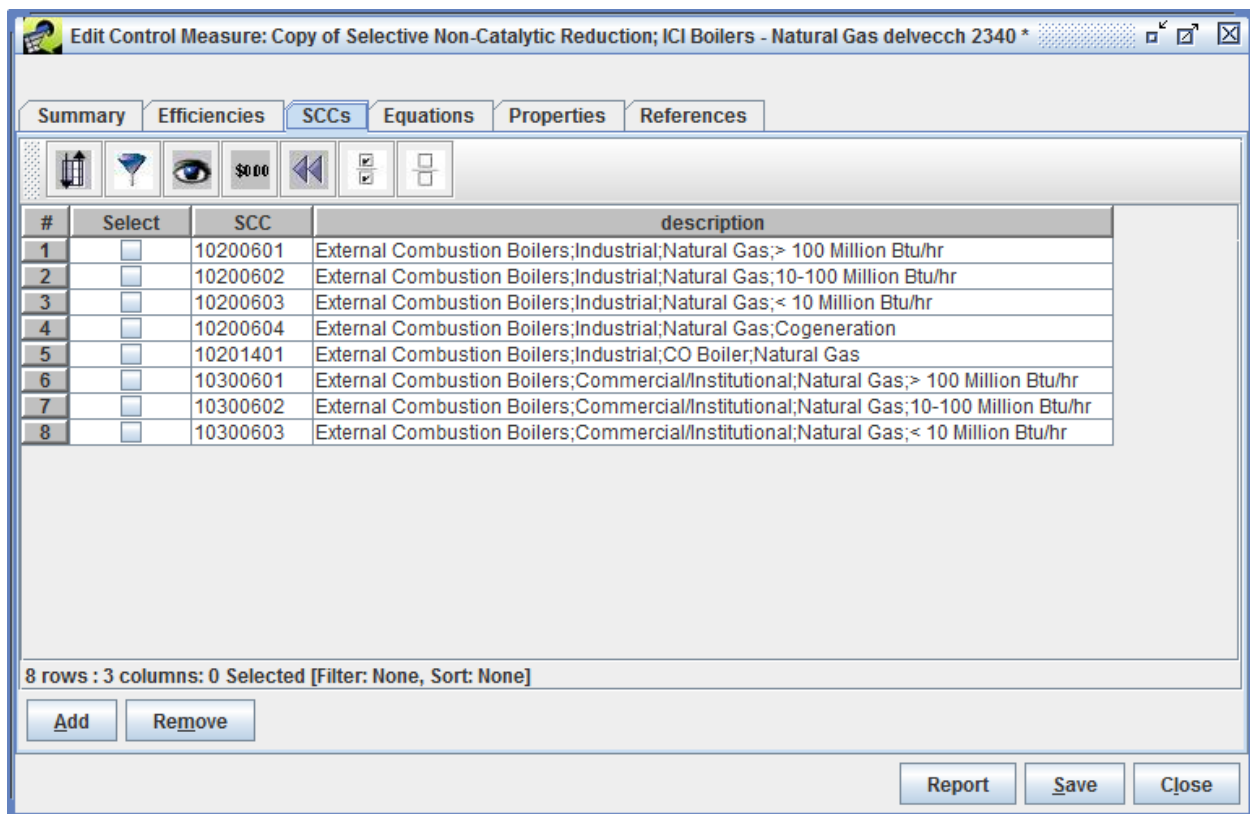
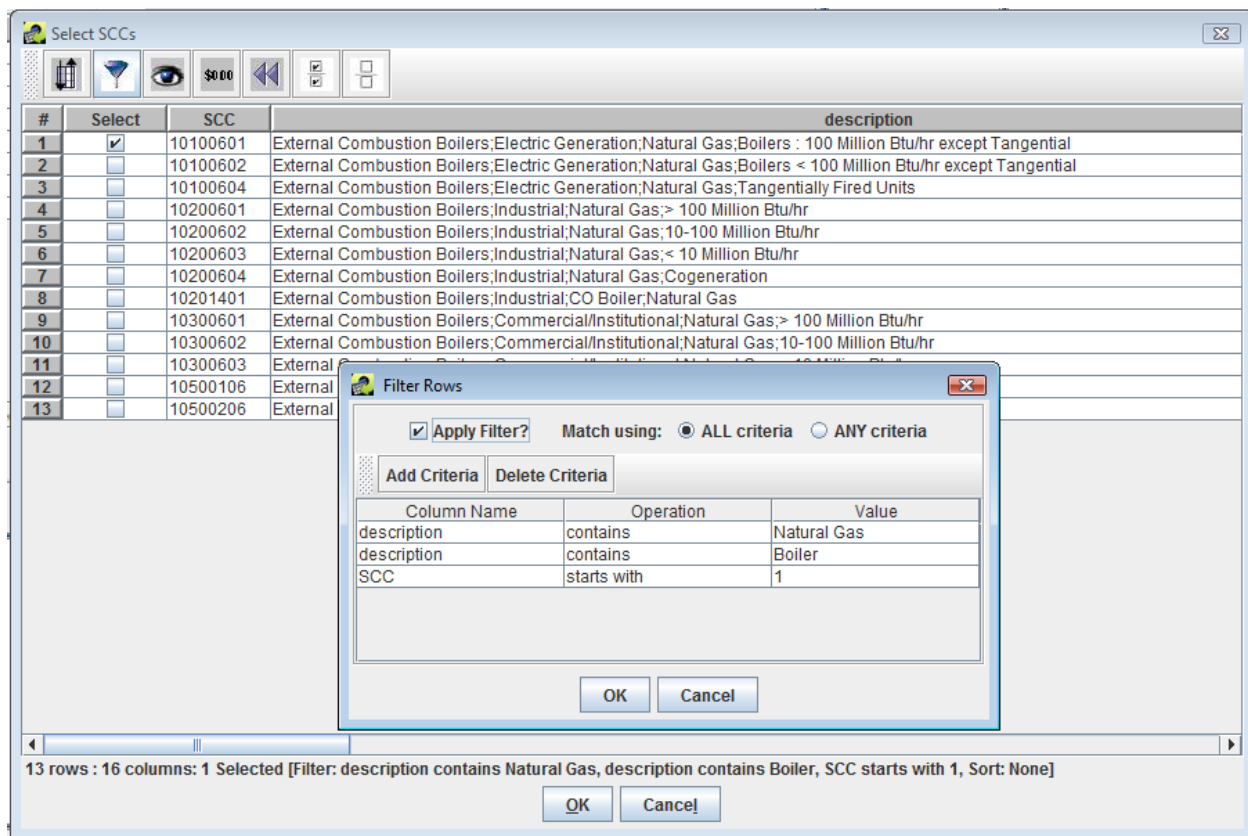

Figure 3.21: SCCs Tab of Edit Control Measure Window
Figure 3.22: Select SCCs and Filter Rows Dialogs
Step 4-10: Edit Control Measure SCCs. Click on the **SCCs** tab on the Edit Control Measure window to show the SCCs for inventory sources to which the edited measure can be applied. SCCs may be added or removed for a measure from this window. An example of this tab is shown in Figure 3.21.
To add new SCCs, click the **Add** button to display the Select SCCs window (Figure 3.22). Note that there are over 11,900 possible SCCs to use for developing control measures. The number of available SCCs can be found in the lower left hand corner of the Select SCCs dialog.
The Select SCCs window will show only the SCCs that met the above criteria, such as the 13 SCCs shown in Figure 3.22. While many of these SCCs are already associated with the measure (i.e., they are already shown on the SCCs tab of the Edit Control Measure window in Figure 3.21, a few additional SCCs (i.e., the ones starting with 101 and 105) are also relevant for this measure.
will have no effect on any emissions sources. The SCC tab for the new measure will look similar to Figure 3.21, except initially there will be no SCC records. Note that the same control efficiency and cost information must apply to all sources with SCCs listed on this tab, otherwise the information must be stored in a separate measure for the other SCCs. For more information on the data needed for SCCs, see Section 2 and Section 4.
Step 6-1: Find Control Measures for SCCs. Before using the Find feature, set the **Pollutant Filter** (in the top left corner of the Control Measure Manager) to **Select one**, and click the **Reset** button on the toolbar, so that no pollutant or other filters will be applied prior to performing the next step. Click the **Find** button. You will see the Select SCCs window, similar to the one shown in Figure 3.22, except that all 11,900+ SCCs will be shown.